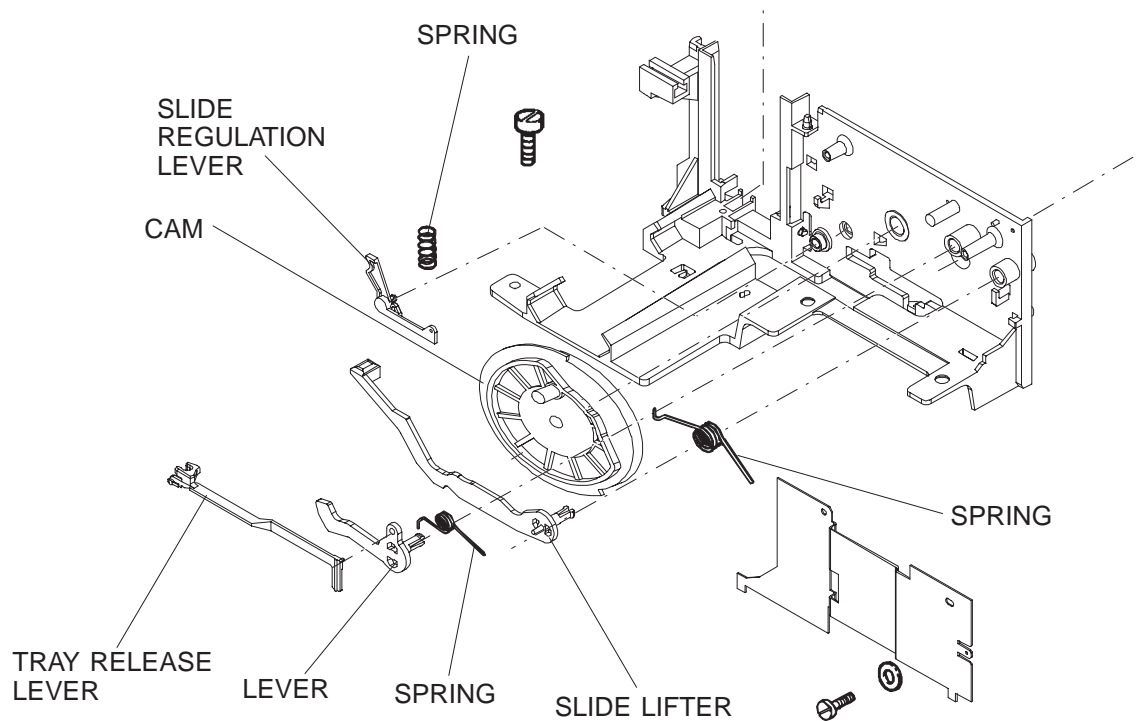

figure 4-24
7. Remove the TRAY RELEASE LEVER. See figure 4-24.